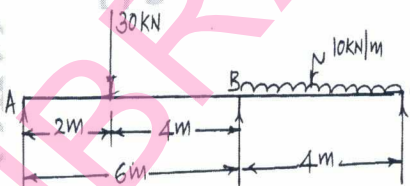

Fig. Q6
- 6 Analyse the continuous beam shown in Fig. Q6 by the flexibility method and draw the bending moment diagram. (20 Marks)